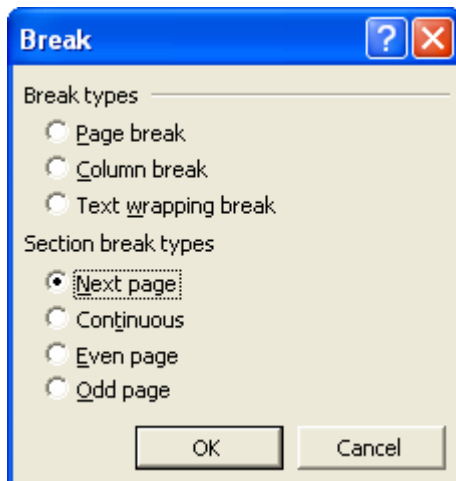

Figure 12 – Break dialog box
Step 1: Reinsert the section break (**Insert/Break/Next page**) (see Figure 12).